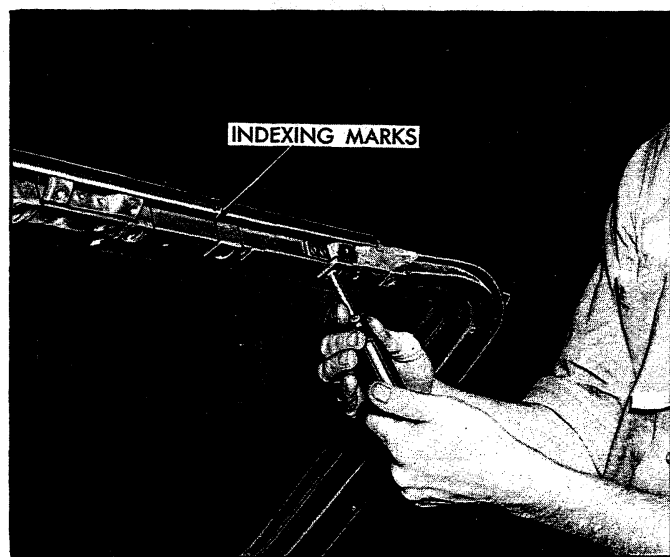

Fig. 14—Removing Upper Reveal Molding
3. Remove upper reveal molding after marking molding and header rail to ease reinstallation as shown in Figure 14.